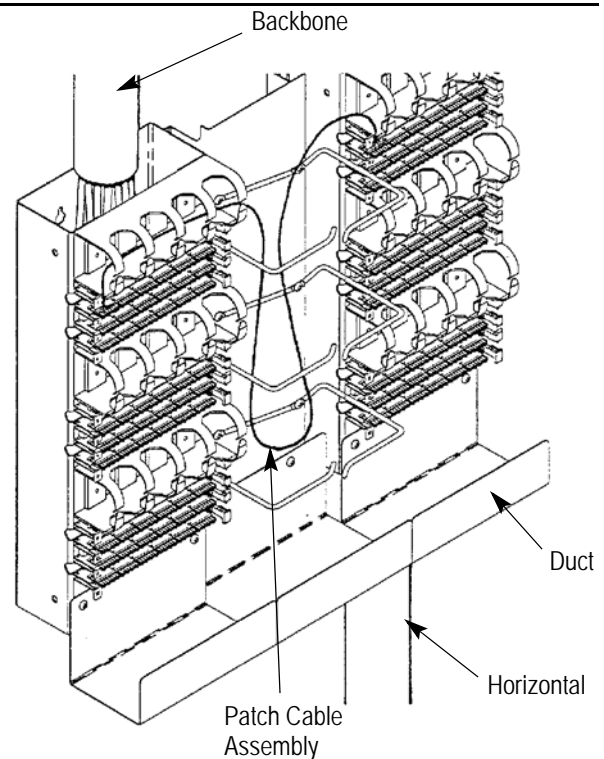

Figure 6
1. Mount the horizontal duct to the bottom of the frame with supplied hardware. See Figure 6.